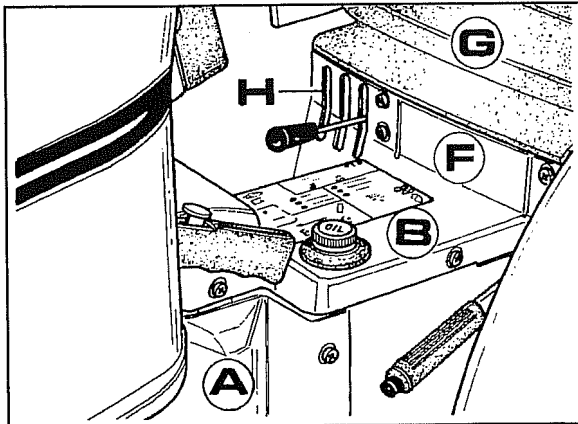

Fig. 1
- 1 Remove the seat **G**, the centre guard **B**, side panel **A** plus the one the opposite side and cross-piece **F** as shown in Fig. 1.